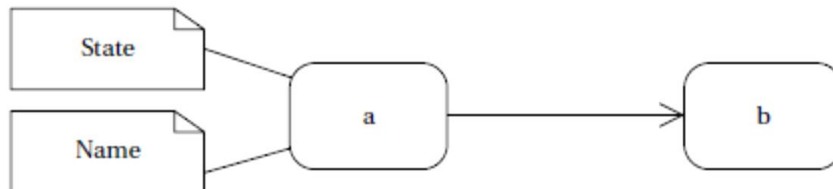

FIGURE 1.10
- ❖ One way to specify the behavior of an operation is a *state machine*. Figure 1.10 shows UML states; the transition between two states is shown by a skeleton arrow.